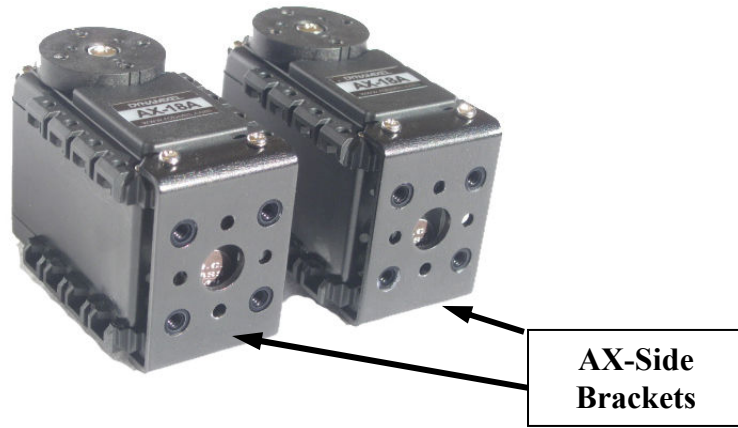

Figure 4
4. Install an AX-Side bracket to the bottom of each of the AX-18A servos as shown in figure 4. Use the screws and nuts that are included in the AX-18A servo box.